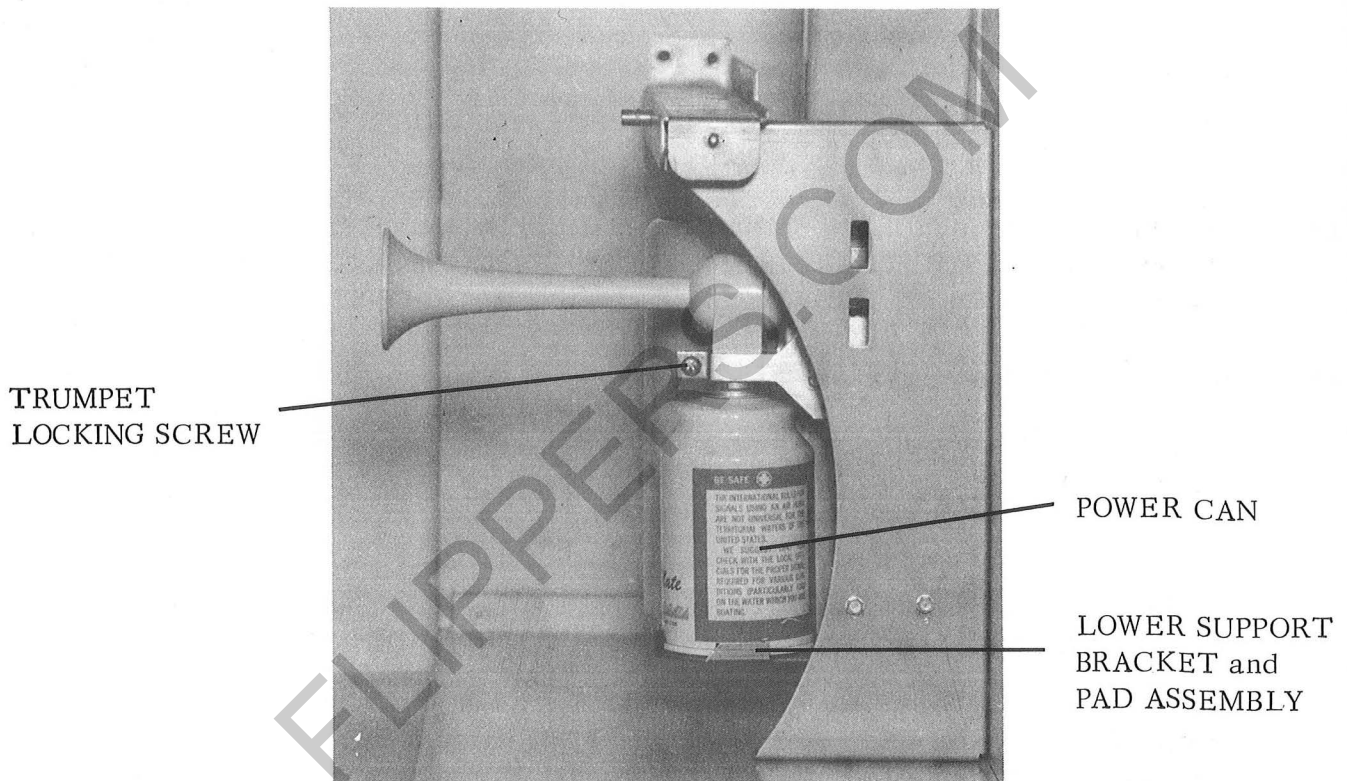

Figure 4.
14. Install Lower Support Bracket and Pad Assembly, Part No. 139131, on Right Hand Chassis Rail and Gusset Assembly, in Model 3600 and 3700 Series Phonographs, as shown in Figure 4. Secure with two Screws, Part No. 77498-34. Do not tighten Screws at this time.
16. Loosen Trumpet Locking Screw shown in Figure 4, then verify that Actuator of Mounting Bracket and Actuator Assembly has been reset.
17. Install Trumpet in Mounting Bracket and Actuator Assembly as shown in Figure 4. Do not tighten Trumpet Locking Screw at this time.
18. Screw Power Can, Part No. 139037, on Trumpet as shown in Figure 4.